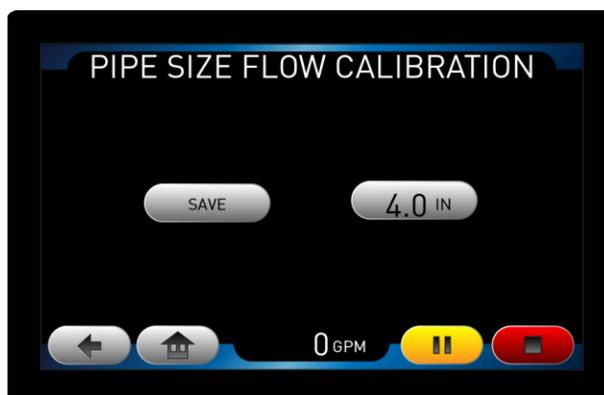

Figure 48: Flow Calibration By Pipe Size page
- Press the “Pipe Size Cal” button next to the valve that has the flow sensor installed to get to the Flow Calibration by Pipe Size page (Figure 48).